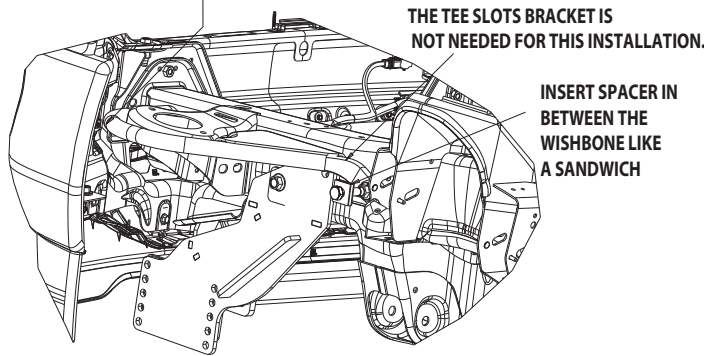

Fig. 1
2. Remove the plastic mud-guard at the bottom of the frame by removing the screws on the perimeter. Re-locate a small screw on the driver side that holds the thin plastic plate near the fuse box. **For 2015 & newer vehicles, a wish bone bracket must be relocated with a spacer sandwiching in between.** See Fig. 1.